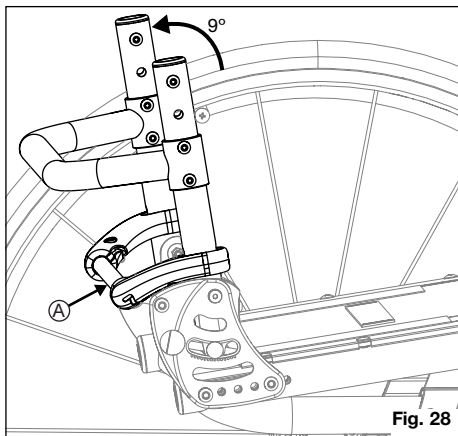

Fig. 28
How to Use the Relaxed Position (Fig. 28)
1. Lean forward slightly to take the load off the latching pins and then pull up on the release bar (Fig. 28:A) and lean back into the relaxed position.